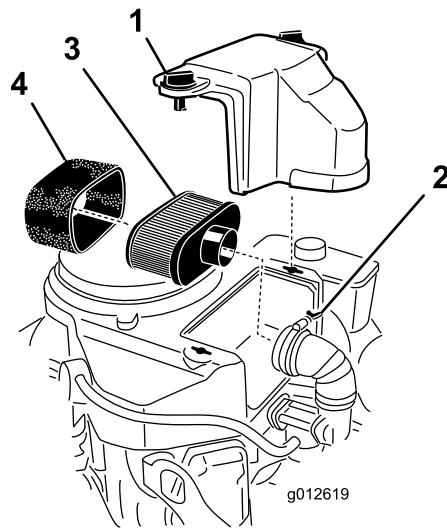

Figure 26
3. Clean around the air cleaner to prevent dirt from getting into the engine and causing damage (Figure 26).
4. Unscrew the cover knobs and remove the air cleaner cover (Figure 26).
5. Unscrew the hose clamp and remove the air cleaner assembly (Figure 26).
6. Carefully pull the foam element off the paper element (Figure 26).
1. Do not clean the paper filter, replace it (Figure 26).
1. Carefully slide the foam element onto the paper air cleaner element (Figure 26).
2. Place the air cleaner assembly onto the air cleaner base and secure it with the 2 wing nuts (Figure 26).
3. Place the air cleaner cover into position and tighten the cover knob (Figure 26).